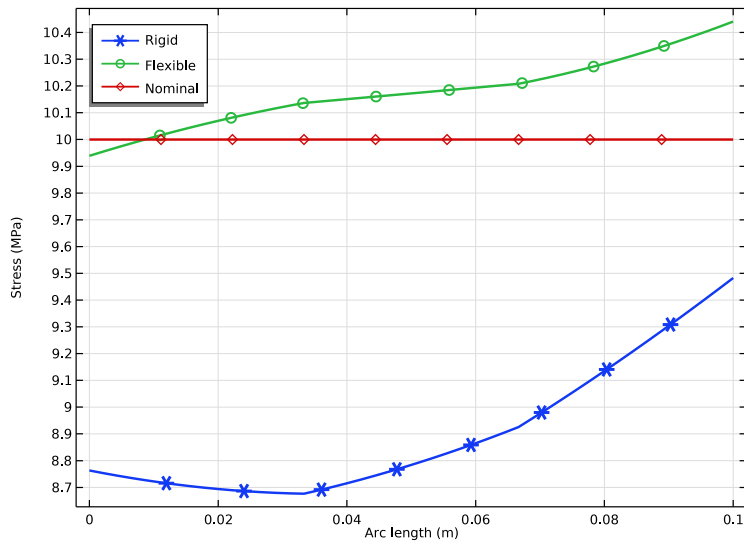

Figure 8: Equivalent stress through the thickness at the transitions (torsion).
- The stress at the transitions is shown in Figure 8. The nominal stress level is the theoretical value at the midsurface. The linear through-thickness distribution is predicted by the torsion theory, and the equivalent stress shows no influence of other stress components than the shear stress.